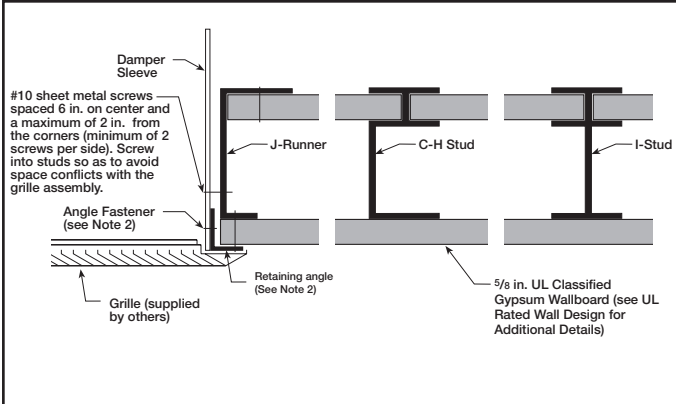
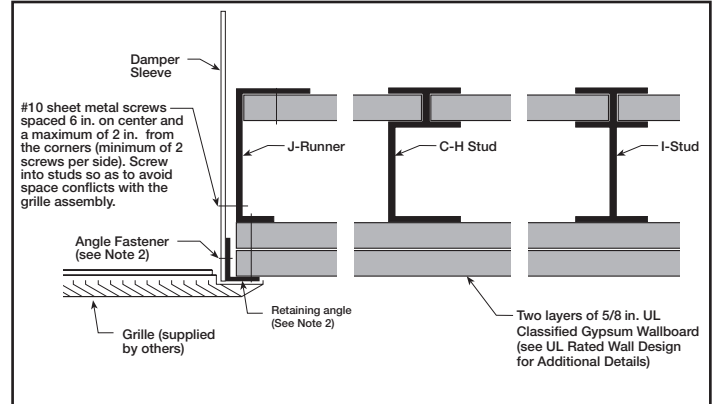

Figure 7: 1 Hour Shaftwall Rating
Figure 8: 2 Hour Shaftwall Rating
- Using #10 sheet metal screws, screw from inside of sleeve into the studs. Space screws a maximum of 6 in. (152 mm) on center and a maximum of 2 in. (51mm) from the corners (minimum of 2 screws per side). (See **Figure 7** and **Figure 8**).